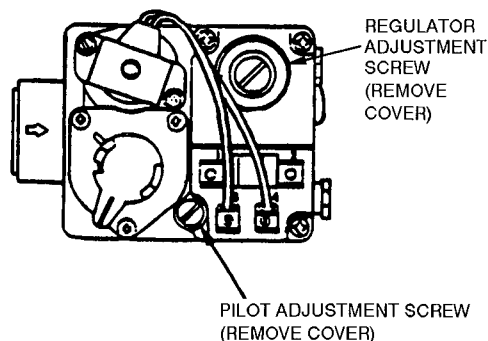

Fig. 30 — Gas Valve
2. Remove screw cap cover on pilot gas valve to expose adjusting screw (See Fig. 30).
6. Remove screw cap covering regulator adjustment screw (See Fig. 30).